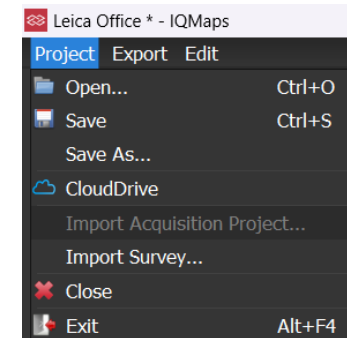

Fig. 30 Save a project
8. Press Save, and this will create the project format *.iproj Fig. 30.